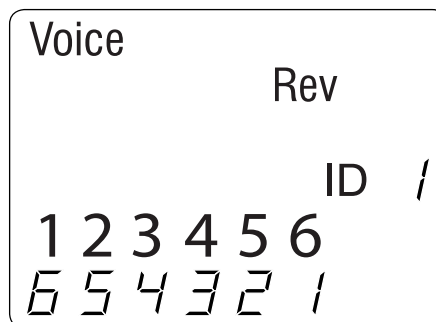
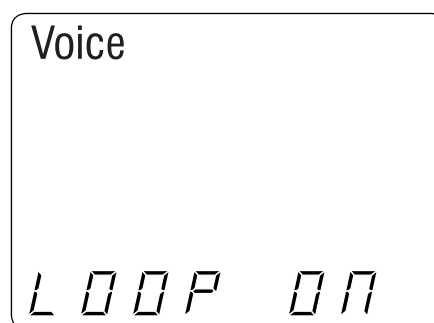

Figure 4. Voice Mode Test with Rev Cable
Figure 5. Loop Testing in Voice Mode
3. **Single Test:** To run a single test on the 6-position connected voice cable, press the VOICE MODE button. The following appears in the LCD display screen (see Figure 4):
4. **Continuous Test:** To run a continuous test, press and hold down the VOICE MODE button until “LOOP ON” appears in the display (see Figure 5 below). When looping is active, three small moving “bars” appear on the right side of the display screen. The display screen will update with the icons and values that appear during a single test (see Figure 4). To turn test looping OFF, press and hold down the VOICE MODE button until “LOOP OFF” appears.